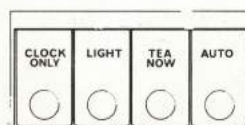

Fig 1
**Use as a bedside light:** The light may be switched on at any time by pressing down 'LIGHT' key of switch (see Fig 1). To switch off light depress the appropriate key to return to the function required ie 'AUTO' or 'CLOCK ONLY'.